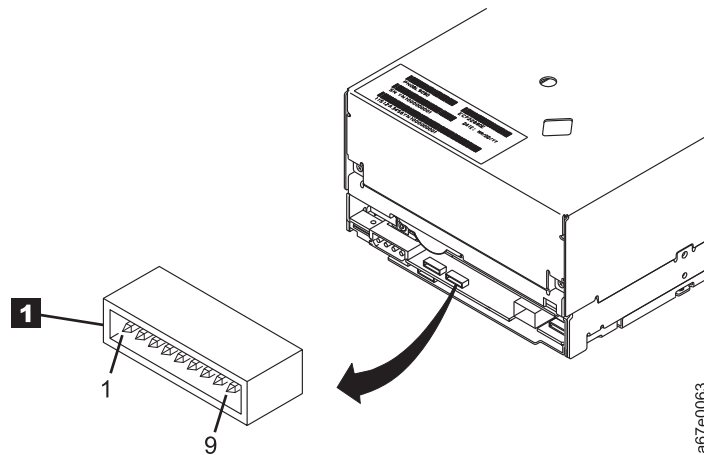

Figure 2-3. Location of the Fibre Channel (FC) configuration/status connector. The view is from the rear of the drive.
3. Locate the Fibre Channel (FC) configuration/status connector on the drive (see **1** in Figure 2-3 on page 2-9.)